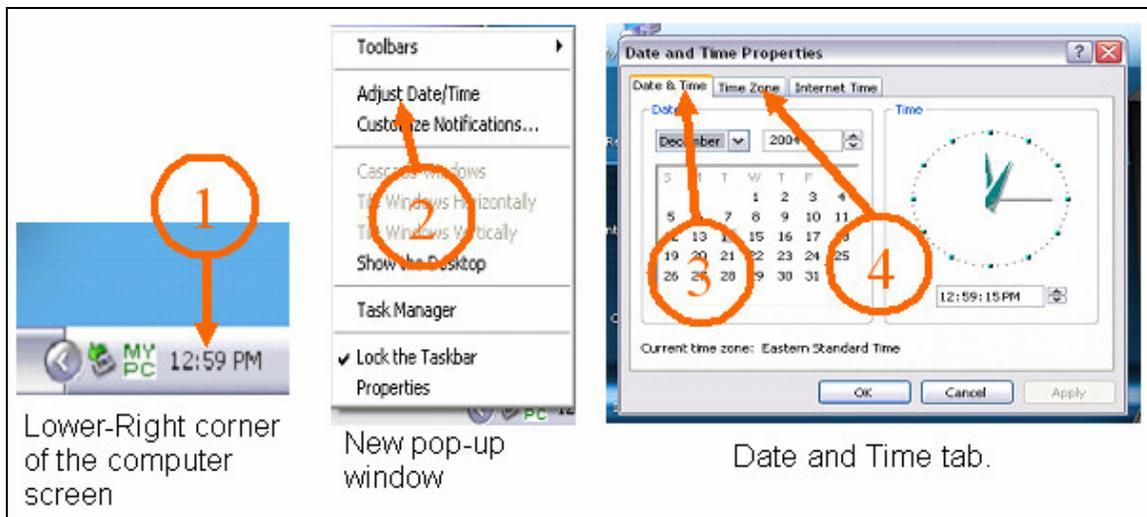

Figure 3: Setting the Time Zone and Local Time
- With your right mouse button, double-click on the time box at the lower right corner of the computer screen (see #1 in Figure 3 below). A new pop-up window appears.